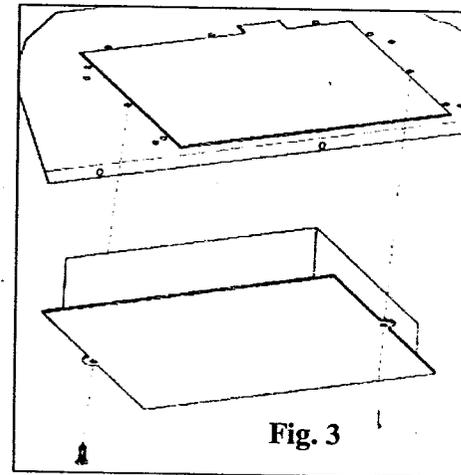

Fig. 3
### To fit the carbon filter - Fig. 3:
**To replace the carbon filter - Fig. 3:**